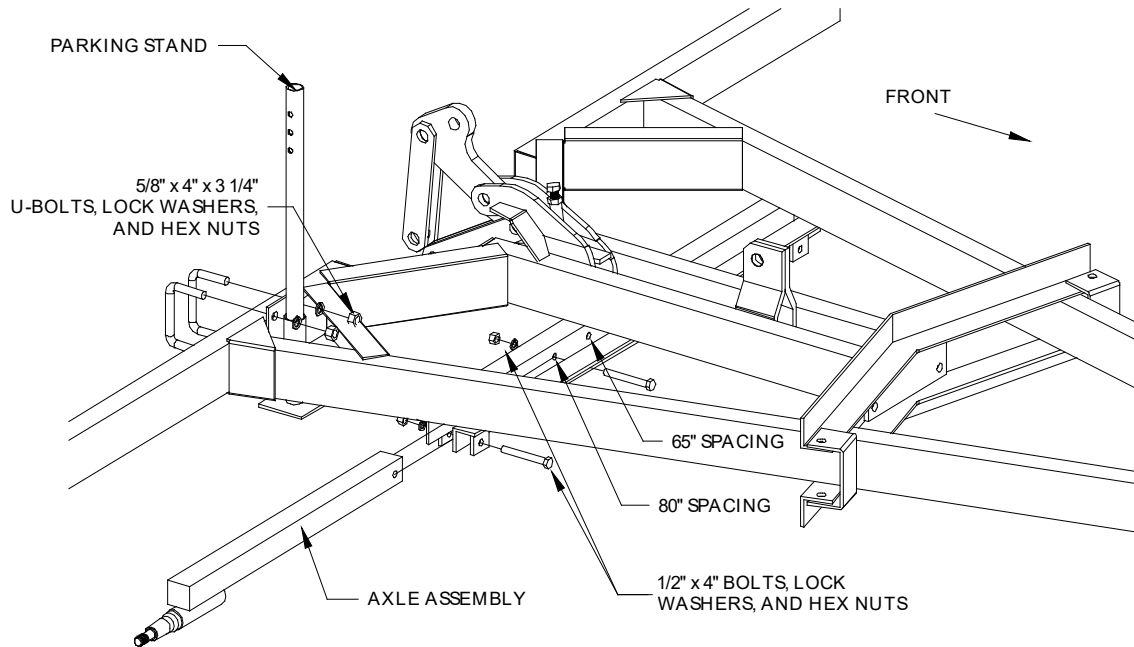

Figure 1
2. Bolt the axle assemblies in position. Use 1/2" x 4" bolts, lock washers, and hex nuts. Refer to Figure 1. Note the location of the spindle is below the axle assembly tube.
3. Attach the rear parking stand to the rear cross channel at the rear of the main frame with two 5/8" x 4" x 3 1/4" U-bolts, lock washers, and hex nuts. Refer to Figure 1.